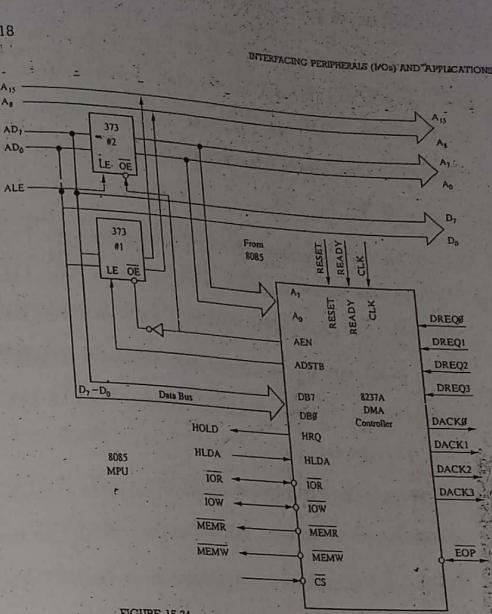

FIGURE 15.34
→ DMA Transfer includes eight data lines, four control signals ( $\overline{IOR}$ ,  $\overline{IOW}$ ,  $\overline{MEMR}$  and  $\overline{MEMW}$ ) and eight address lines ( $A_7$  to  $A_0$ ). However, it needs 16 address lines to access 64K bytes. So, eight additional lines must be generated as shown in fig 15.34.
- Fig. 15.34 shows two latches: one latch (373 #1) to latch a high-order address from the data bus by using AEN and ADSTB signals, and the second latch (373 #2) to demultiplex the 8085 bus and generate the low-order address bus using ALE from 8085.